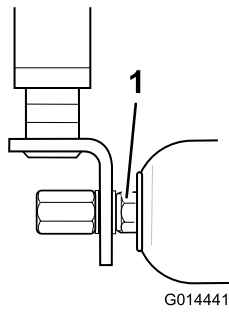

Figure 68
2. If there is excessive movement, carefully tighten the nuts at each end of the roller with the wrench just enough to remove any end play (Figure 68).